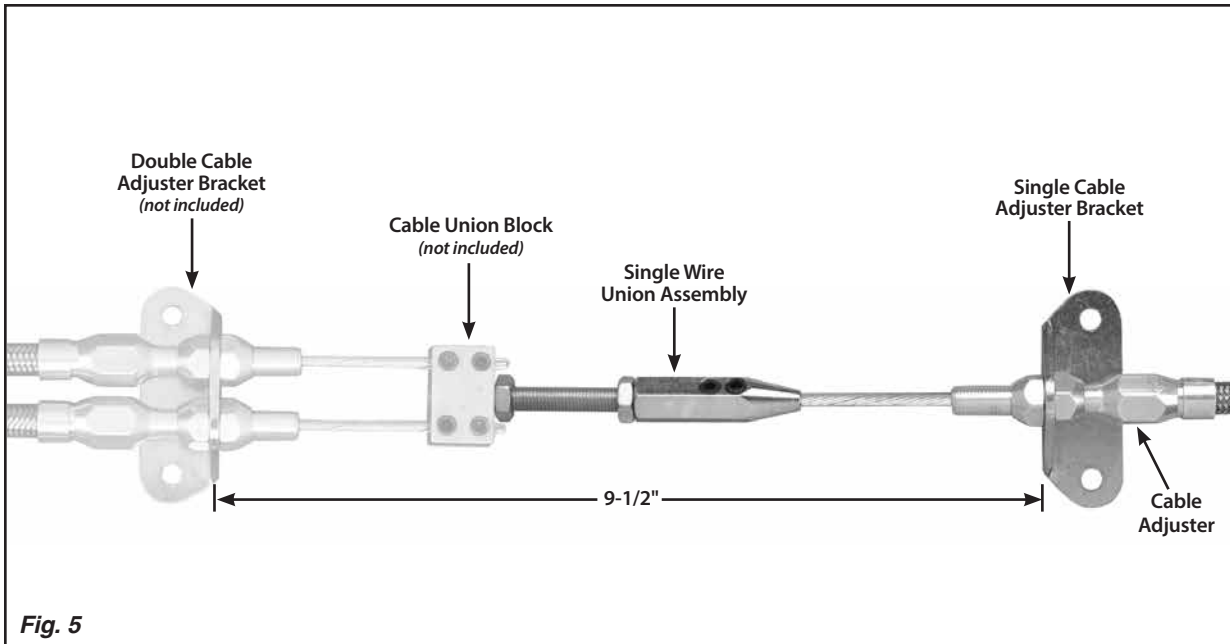

Fig. 5
Step 4: Determine where the single cable adjuster bracket will be mounted. The single cable adjuster bracket must be aligned with the double cable adjuster bracket (not included, comes with the rear Emergency Brake Cables) so that the cables are being pulled in a straight line, not at an angle. If you are using Lokar's Universal Emergency Brake Cables on your rear brakes, the single cable adjuster bracket should be mounted approximately 9-1/2" in front of the double cable adjuster bracket as shown in Fig. 5.